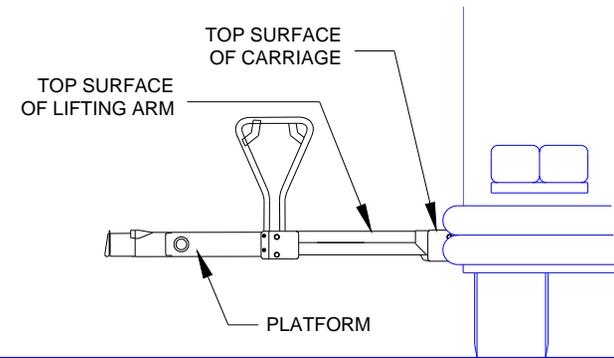

FIGURE 2-17: LIFTING ARM AND CARRIAGE AT SAME HEIGHT
- 2) Refer to **Figure 2-17**. Raise the platform to stow height; position the top surface of the platform lifting frame arm at the same height as the top surface of the carriage. If the exact height cannot be obtained, a slightly low platform is preferred to slightly high. This alignment eliminates interference between the platform and enclosure when pushing the platform into the enclosure.